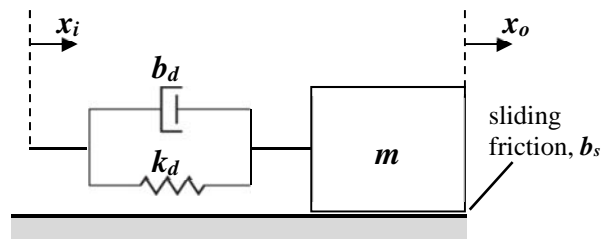

Figure 1[a]
1. [a] A high precision positioning slide is shown in Figure 1[a]. The drive shaft friction is b_d , the drive shaft spring constant is k_d , carriage mass is m , and the sliding friction is b_s . Assume all the initial conditions are zero.